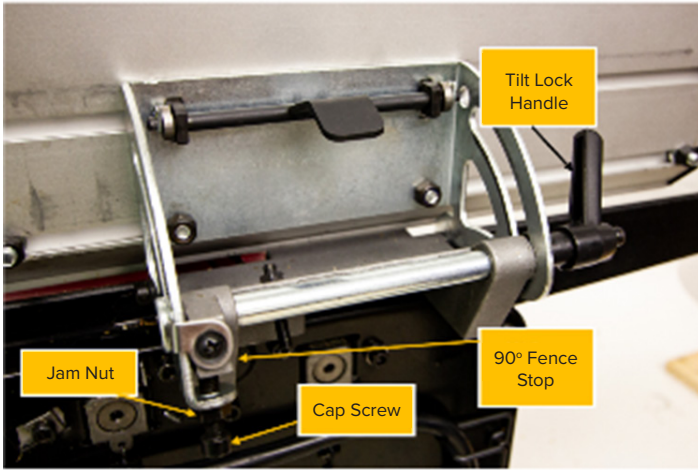

Figure 42: Setting 90° Angle.
2. Loosen the fence tilt lock handle (refer to Figure 42) and adjust the fence to the 90° position (0° on the fence scale), then tighten the handle.
4. Loosen the jam nut and cap screw as shown in Figure 42.
2. Loosen the fence tilt lock handle (see Figure 42) and adjust the fence to the 45° outward position, then tighten the handle.